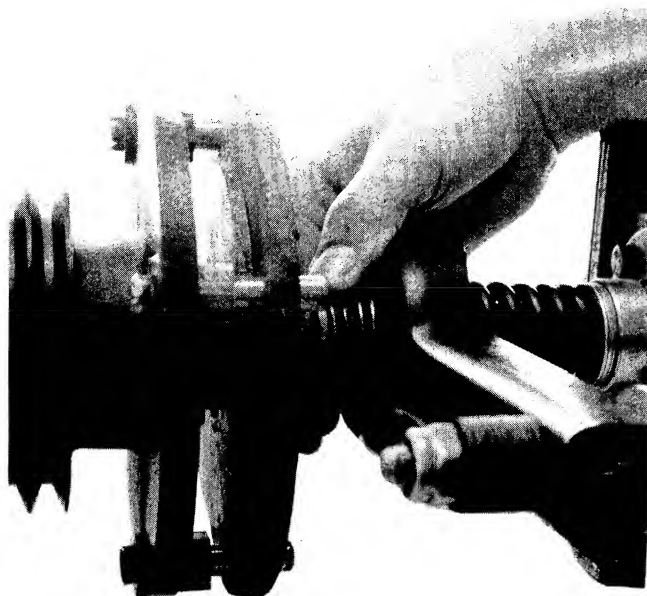

FIGURE 13. CLUTCH SPRING
5. Rust on the center shaft of the clutch can cause the spring guides under the small spring to bind. See Figure 13. Remove the rust from the shaft and lubricate with a thin film of oil.